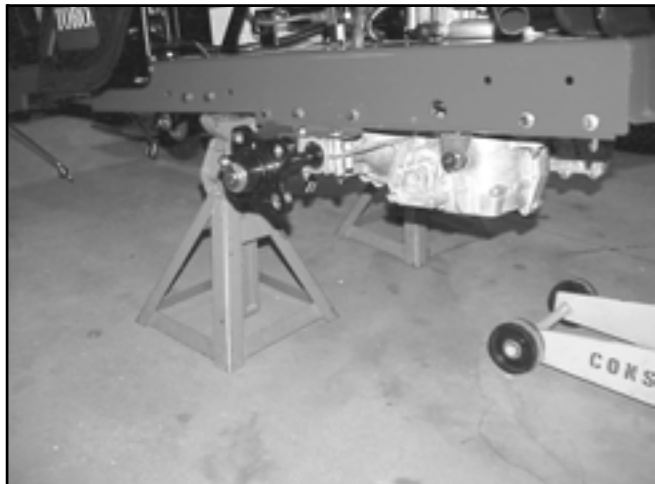

Figure 30
3. Install jack stands in front of the transaxles (Figure 30).